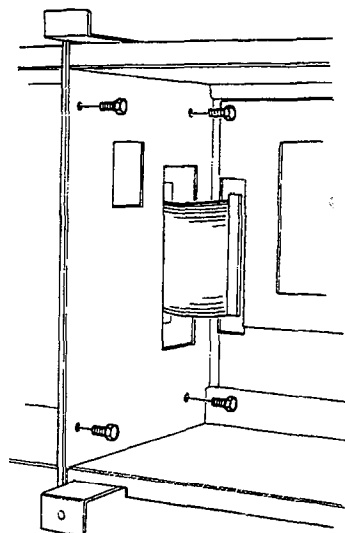

Figure 3-22 Bolting the Level II Expansion KSU to the Basic KSU
3. Bolt the Expansion KSU to the Basic KSU using the four provided bolts. Refer to Figure 3-22 - Bolting the Level II Expansion KSU to the Basic KSU.